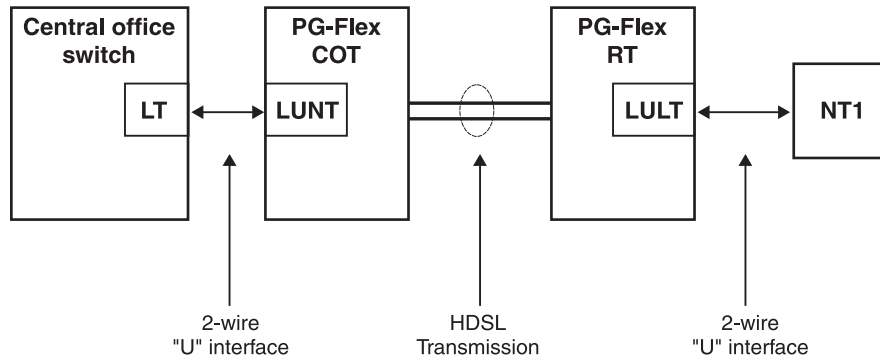

Figure 4. Typical ISDN Arrangement
ISDN is a networking standard that provides end-to-end, simultaneous handling of digitized voice and data traffic on the same link. The ISDN Basic Rate Interface (BRI) channel unit provides an interface to North American Integrated Services Digital Network (ISDN) basic access services (see Figure 4). Each ISDN channel unit for PG-Flex supports four "U" interfaces with provisionable sealing current and performance monitoring on each channel. Line termination (LT) in the CO occurs at the ISDN switch. The channel unit provides the line unit termination at the RT, and the subscriber site has the Network Termination (NT1).